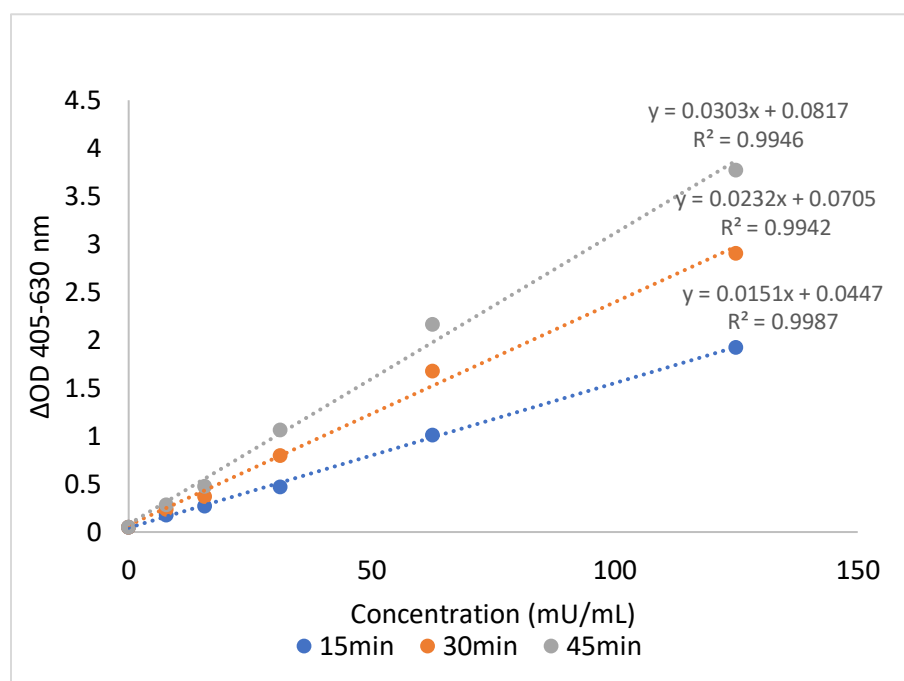

Figure 1. Enzyme was serially diluted in Assay Buffer-acidic, and its activity was measured with PNPP after a given time of reaction (15, 30 and 60 minutes).
The activity of serially diluted Enzyme, Acid Phosphatase from potato, (cat #8108f) in Assay Buffer-acidic (cat #8108a) was measured with PNPP after 15-45 minutes as shown in Figure 1.
4. Mix and measure the absorbance on Microplate reader with a test wavelength at 405 and reference wave length at 630 nm. Determine the final absorbance value by subtracting the 630 nm reference absorbance from the 405 nm measurement. Example results are shown below in Figure 1.